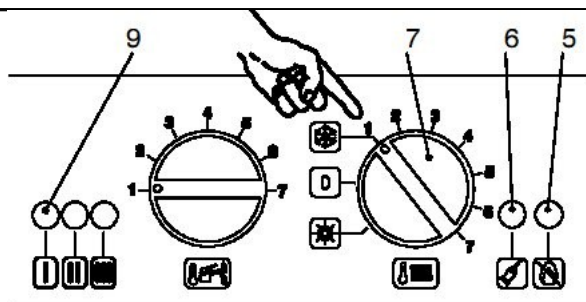

Fig. 6.46
2. Turn the function selector 1.2 as in Fig. 6.46 The appliance operation light 1.2 will flash every 2 seconds.
To reset the boiler press and release the boiler reset button 1.2 (Fig. 6.46)